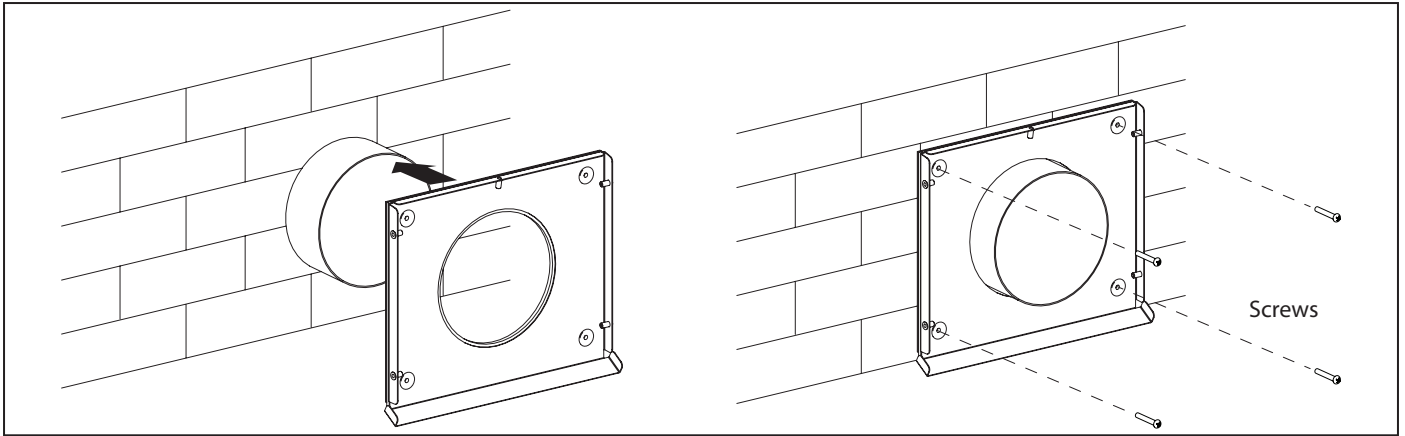

Fig. 14b.
- Fig. 14b - for VENTO Expert A50-1 S Pro model. Connect the back part of the ventilation hood with the wall using the 4x40 screws from the delivery set.